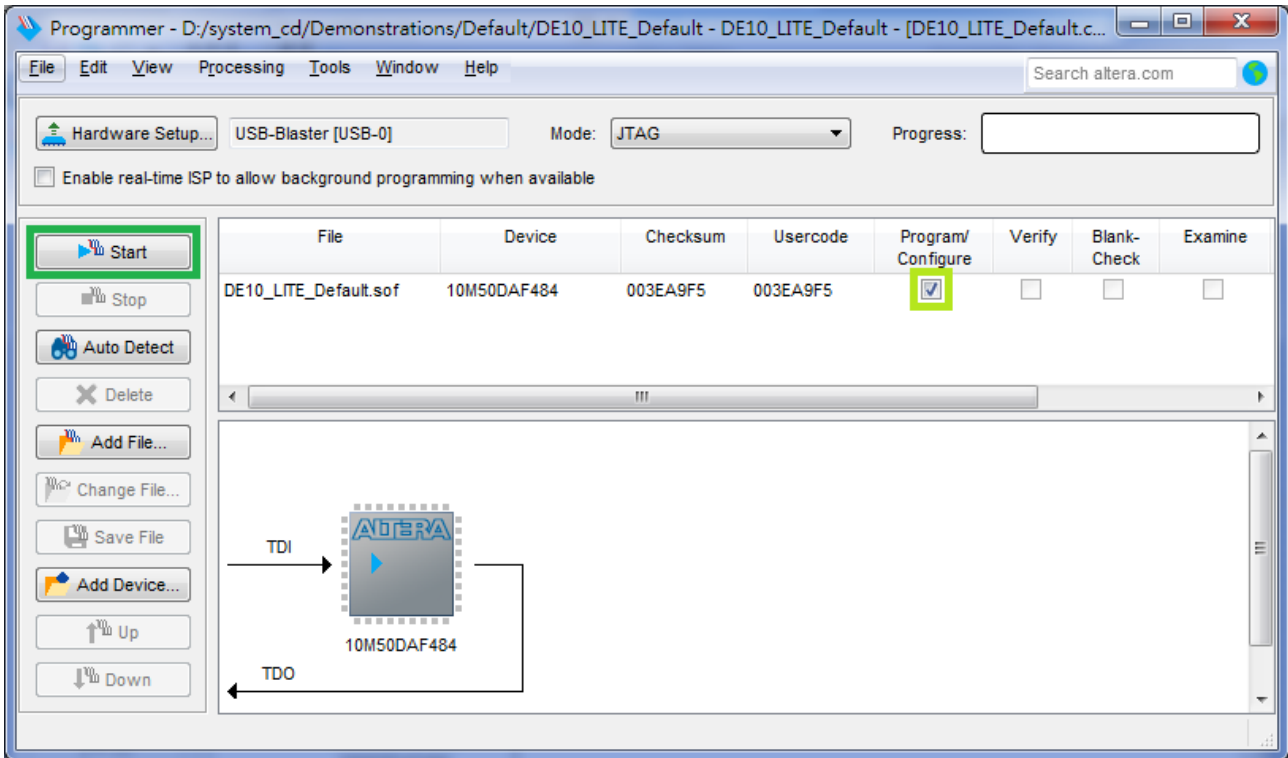

Figure 3-9 Program .sof file into the FPGA device
- Click “Program/Configure” check box and then click “Start” button to download the .sof file into the FPGA device, as shown in **Figure 3-9**.